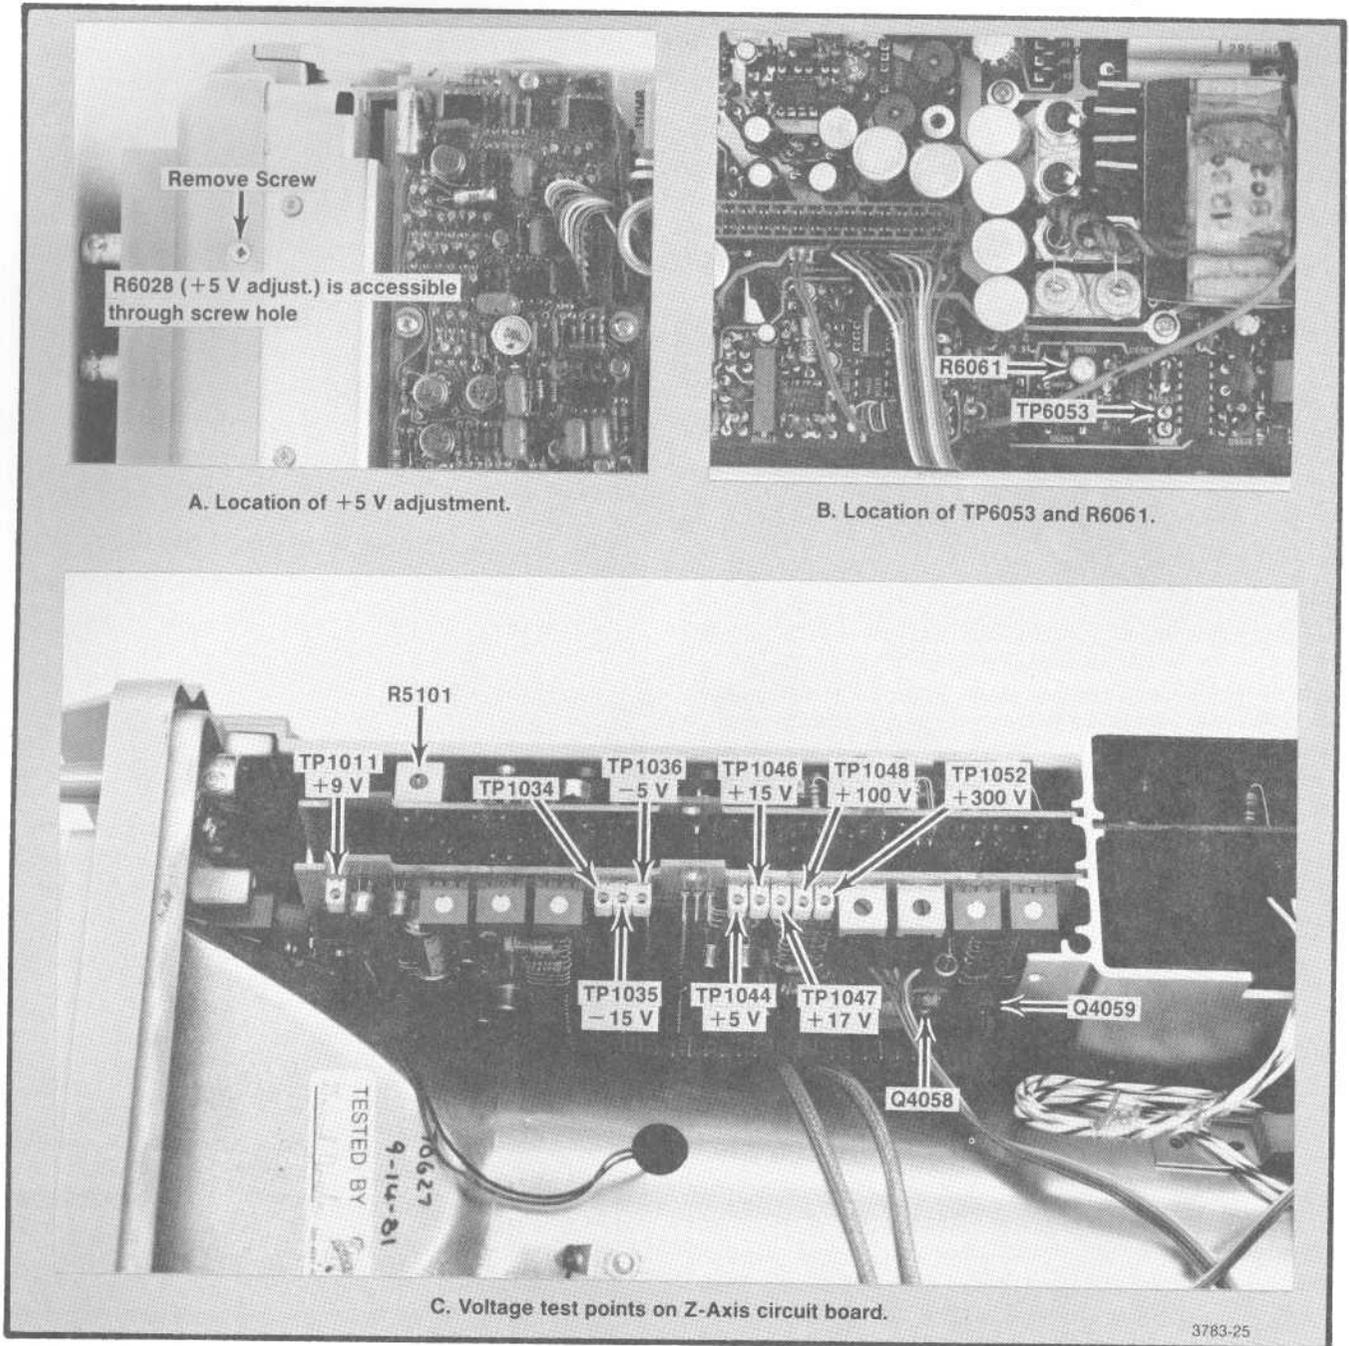

Fig. 3-22. Low voltage power supply adjustments and test point locations.
d. Connect a test oscilloscope probe with a deflection sensitivity of 5 V/div and sweep rate of 10 μ s/div to TP6053 (Fig. 3-22). Note the output waveform of the oscillator U6059. Amplitude should be approximately 10 V.
- 1) Using a voltmeter on the 20 volt range, measure and record the collector voltage of Q4058 or Q4059 (Fig. 3-22) on the Z-Axis board.